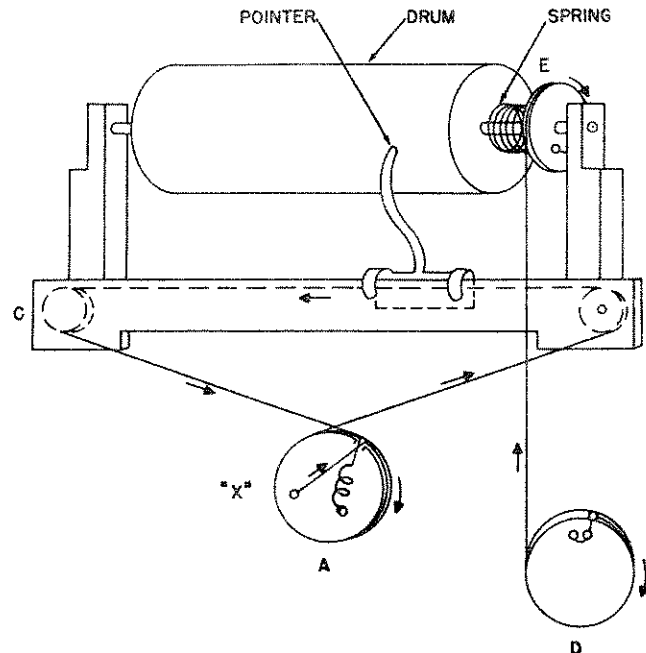

Figure 5-6. 51J-4 Dial Cord Arrangement
5.8.1. MEGACYCLE POINTER CORD. - Refer to figure 5-6. Remove the front panel according to directions in paragraph 5.6.2.(a). If the cord is to be replaced, use  $36-5/8$  inches of Collins number 432 1009 00 nylon-covered cord.
- (b) Tie a loop in the cord. Loop the cord over the tab at point X in figure 5-6.
(b) Turn pulley E, figure 5-6, about one-half turn and hold tension of spring.